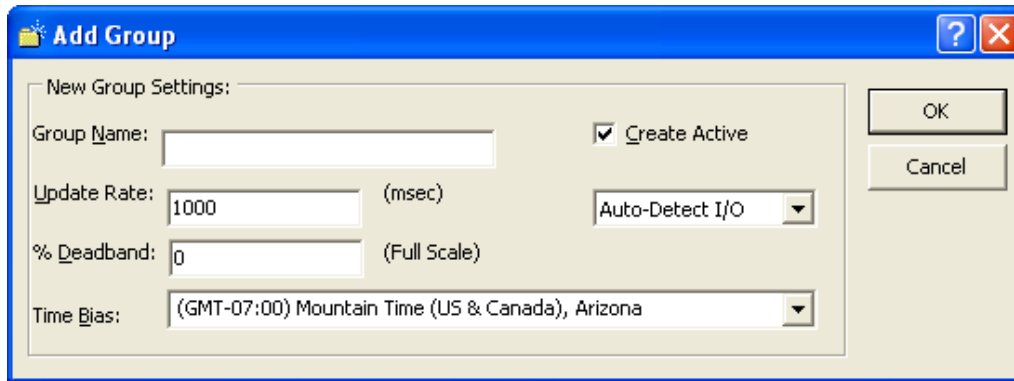

Figure 13 - Add Group Window
3. The **Add Group** window (Figure 13) appears.